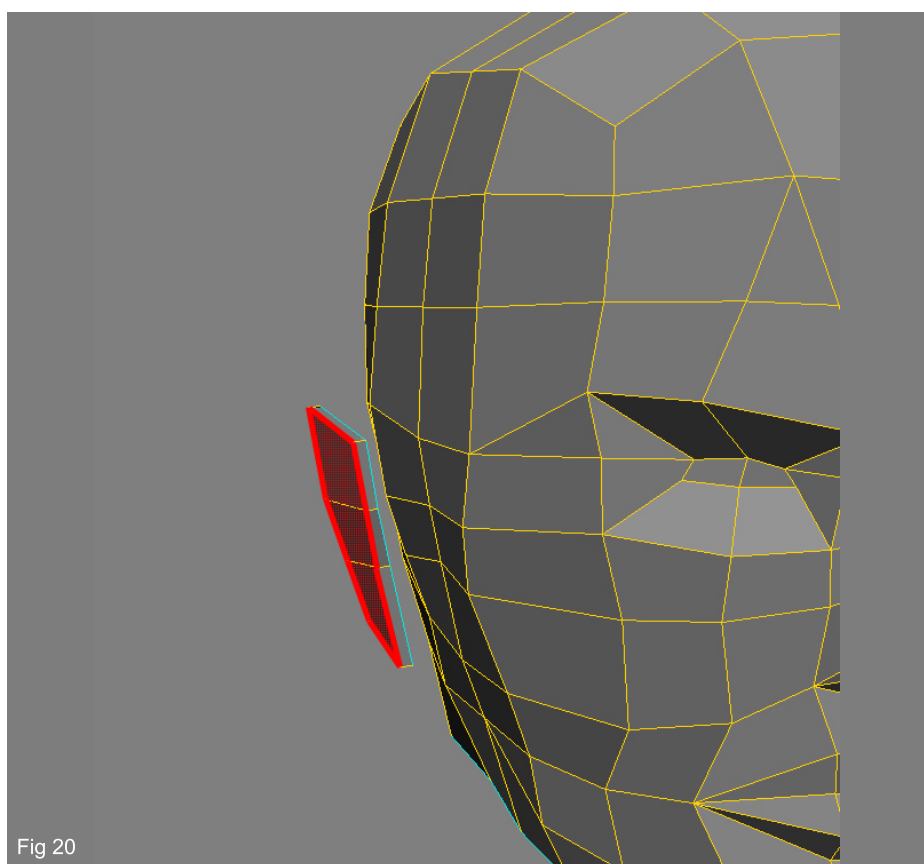

Fig 20
20. With the new polygons still selected, use the Ctrl + D shortcut key to Duplicate/Extrude them. Then move the newly extruded polygons outwards a bit, to give the ear some volume as shown in Fig20.